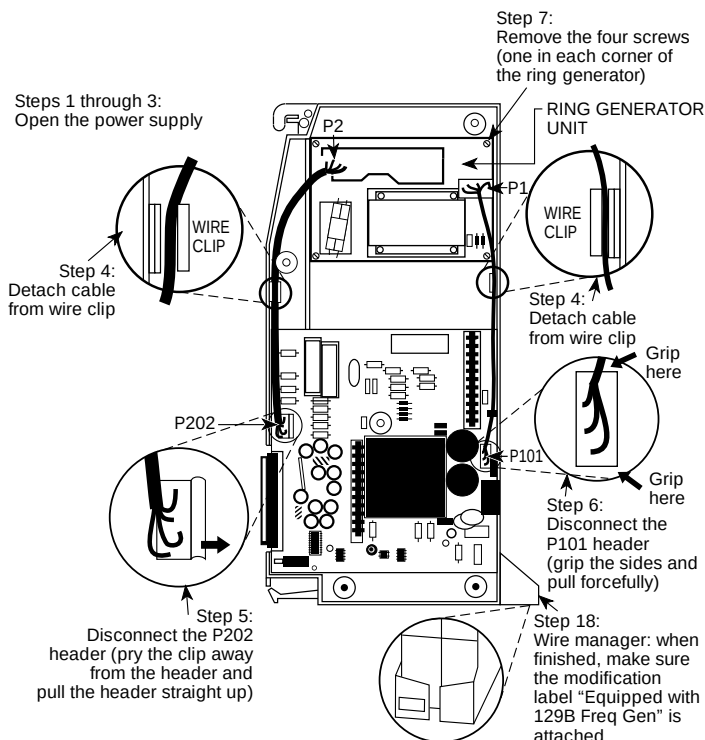

Figure 4-2. Replacing a Ring Generator
To replace the ring generator, follow the steps below. Refer to Figure 4-2 throughout the procedure.
- ▶ **7. Remove the four screws from the ring generator, as shown in Figure 4-2.**
- ▶ **9. Position the replacement ring generator, as shown in Figure 4-2. Align the screw holes.**
- **18. Verify that the modification label (Equipped with 129B Freq Gen) is attached to the front of the power supply (shown in Figure 4-2).**